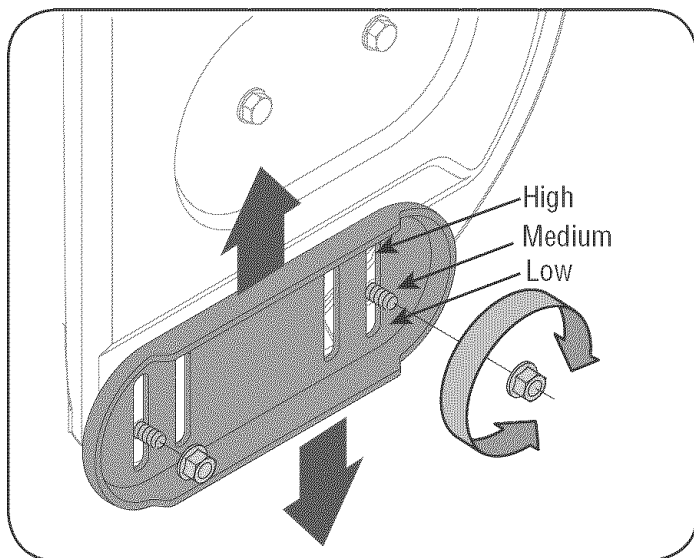

Figure 12
2. Loosen the four hex nuts (two on each side) and carriage bolts. Move skid shoes to desired position. See Figure 12.